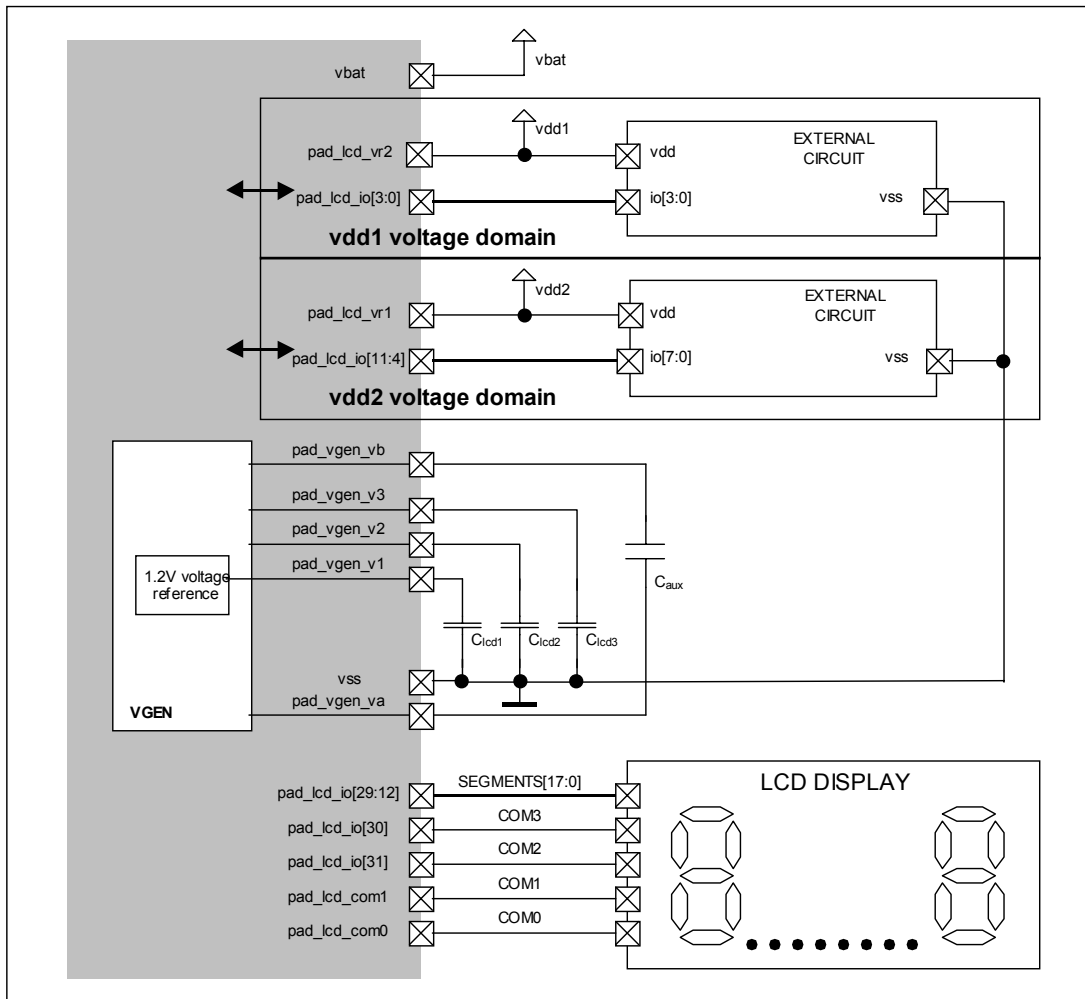

Figure 19-21. Sharing LCD driver (1:4 mux) and digital I/O with V3 ≠ logic '1'
Figure 19-21 and Table 19-29 show an example. In this case, the pins pad\_lcd\_io[29:12] are used to drive a display with 1:4 multiplexing (**LcdSe15=LcdSe19=LcdSe23=Lcd27=Lcd31=1** in **RegLcdSe** and **LcdMux=11** in **RegLcdOn**). In 1:4 multiplexing, the lines pad\_lcd\_io[31:30] are used for COM2 and COM3. The voltage V3 for the display is generated by the internal voltage multiplier/divider using the internal reference (**VgenOff=0, VgenRefEn=1, VgenMode=0** in **RegVgenCfg0**). The segment status is set by using the **RegLcdDataN** registers with  $6 \leq N \leq 15$ . Writing in the registers with  $0 \leq N \leq 5$  will have no effect. The pins pad\_lcd\_io[11:0] are used as digital I/O (**LcdSe3=LcdSe7=LcdSe11=0** in **RegLcdSe**). The control of the digital I/O is done using the registers **RegPLcdInN**, **RegPLcdOutN**, **RegPLcdDirN** and **RegPLcdPullupN** with  $0 \leq N \leq 1$ . Writing in the registers with  $2 \leq N \leq 3$  will have no effect. The pins pad\_lcd\_io[11:4] and pad\_lcd\_io[3:0] can further be split into two different voltage domains. The voltage domains VDD1, VDD2, V3 and VBAT are independent. The only limitation is that  $VDD1 > VREG$  and  $VDD2 > VREG$ . In the example  $V3=3.6V$ , VBAT could be at 2.7V, VDD1 at 2.4V and VDD2 at 5V.
**Table 19-29. Register contents for configuration of Figure 19-21.**